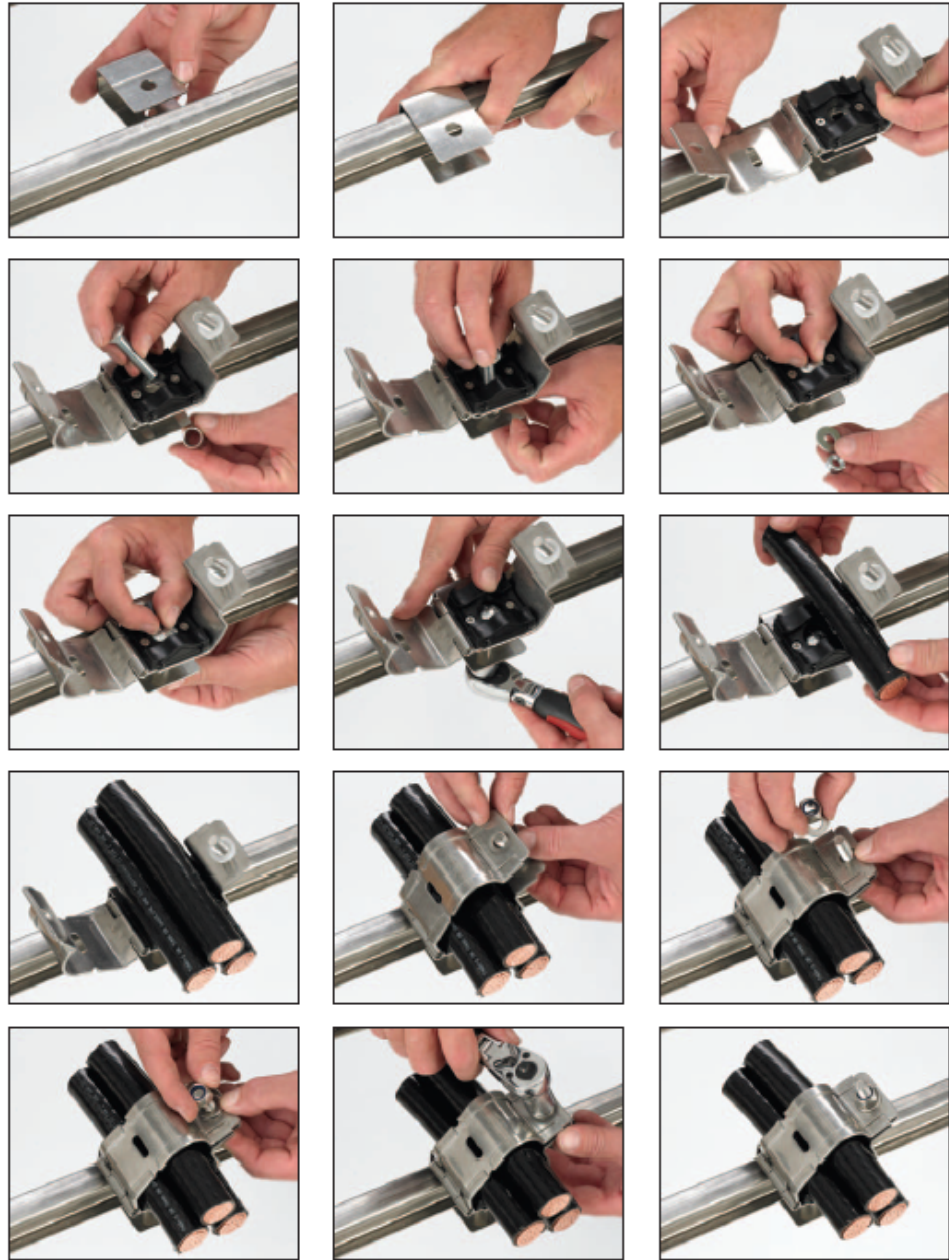

Figure 2-16: Step-by-step instruction to install cable cleats
- (f) Route wires along the cable tray to the ac disconnect switch, ensuring that the three phases (A, B and C) are bundled together in triangular patterns and cable cleats (Nautel Part # HO59) are used to properly secure wires to the cable tray (see Figures 2-16 and 2-17 for examples of proper techniques). Cable cleats are provided in the primary and secondary wiring kits to secure the larger ac wiring to the cable tray ladders. Secure cable cleat brackets (HX69) to the cable tray rungs using hardware provided with the cable cleat. Install cable cleats 3 ft. apart on straight ladder sections and 1 ft. apart on curved sections. See Figure 2-16 and Appendix D for detailed instructions to assemble and install cable cleats on cable trays.
- (n) Route wires along the cable tray to the NX300 power transformer, ensuring that the three phases (A, B and C) are bundled together in triangular patterns and cable cleats (Nautel Part # HO59) are used to properly secure wires to the cable tray (see Figures 2-16 and 2-17 for examples of proper techniques). Cable cleats are provided in the primary and secondary wiring kits to secure the larger ac wiring to the cable tray ladders. Secure cable cleat brackets (HX69) to the cable tray rungs using hardware provided with the cable cleat. Install cable cleats 3 ft. apart on straight ladder sections and 1 ft. apart on curved sections. See Figure 2-16 and Appendix D for detailed instructions to assemble and install cable cleats on cable trays.
- (d) Route secondary wires along the cable tray to the NX300 transmitter, ensuring that the phase wires groups (three wires each) are bundled together in triangular patterns and cable cleats (Nautel Part # HO59) are used to properly secure wires to the cable tray (see Figures 2-16 and 2-17 for examples of proper techniques). Cable cleats are provided in the primary and secondary wiring kits to secure the larger ac wiring to the cable tray ladders. Secure cable cleat brackets (HX69) to the cable tray rungs using hardware provided with the cable cleat. Install cable cleats 3 ft. apart on straight ladder sections and 1 ft. apart on curved sections. See Figure 2-16 and Appendix D for detailed instructions to assemble and install cable cleats on cable trays.
See Figure 2-16 or 2-17 for more detail